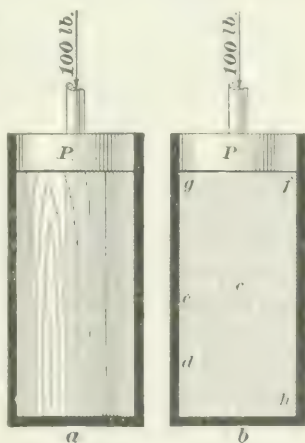
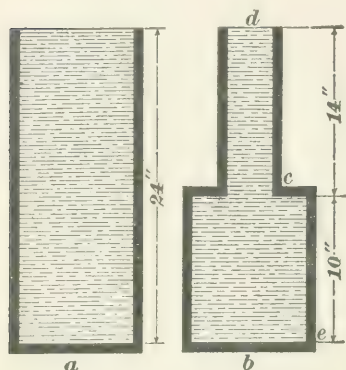
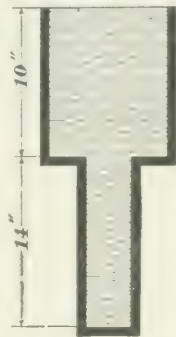
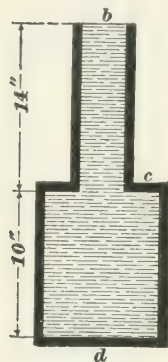

FIG. 1.
FIG. 3.
FIG. 4.
FIG. 5.
3. **Hydrostatic Pressure.**—Fig. 1 represents two cylindrical vessels of exactly the same size. The vessel *a* is fitted with a wooden block of the same size as, and free to move in, the cylinder; the vessel *b* is filled with water, whose depth is the same as the length of the wooden block in *a*. Both vessels are fitted with air-tight pistons *P*, each of whose areas are 10 square inches.
7. Downward Pressure.—In Fig. 3 the pressure on the bottom of the vessel *a* is, of course, equal to the weight of the water it contains. If the area of the bottom of the vessel *b* and the depth of the liquid contained in it are the same as in the vessel *a*, the pressure on the bottom of *b* will be the same as on the bottom of *a*. Suppose the bottoms of the vessels *a* and *b* are 6 inches square, and that the part *c d* in the vessel *b* is 2 inches square, and that they are filled with water. Then, since 1 cubic foot of water weighs 62.5 pounds, the weight of 1 cubic inch of water is $\frac{62.5}{1,728}$ pound = .03617 pound. The number of cubic inches
If this pressure were to be obtained by means of a weight placed on each piston (as shown in Fig. 1 at a and b), we would have to put a weight of $6 \times 6 \times 10 = 360$ pounds on the piston in vessel a , Fig. 3, and one of $2 \times 2 \times 10 = 40$ pounds on the piston in vessel b .
10. Suppose that the vessel *b*, in Fig. 3, were inverted, as shown in Fig. 4, the pressure on the bottom would still be .868 pound per square inch, but it would require a weight of 3,490 pounds on a piston at the upper surface to make the pressure on the bottom 391.25 pounds, instead of a weight of 40 pounds, as in the other case.
11. Upward Pressure.—In Fig. 5 is represented a vessel of exactly the same size as that shown in Fig. 4. There is no upward pressure on the surface *c* due to the weight of the water in the large part *c d*, but there is an upward pressure on *c* due to the weight of the water in the